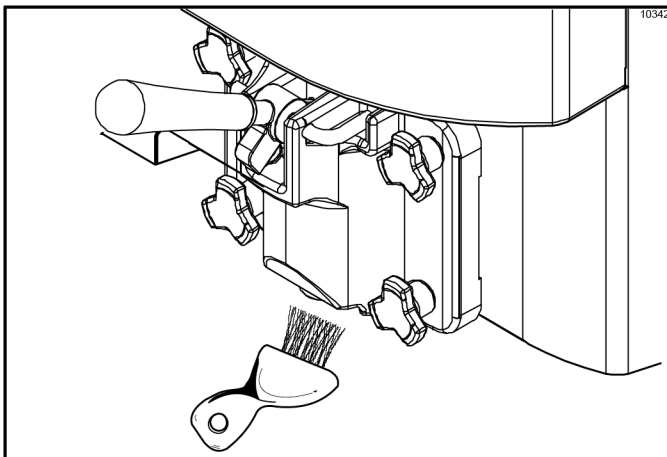

Figure 6-54
2. Return to the freezer with a small amount of sanitizing solution. Dip the door-spout brush into the sanitizing solution and brush-clean the door spout and bottom of the draw valve. (See Figure 6-54.)